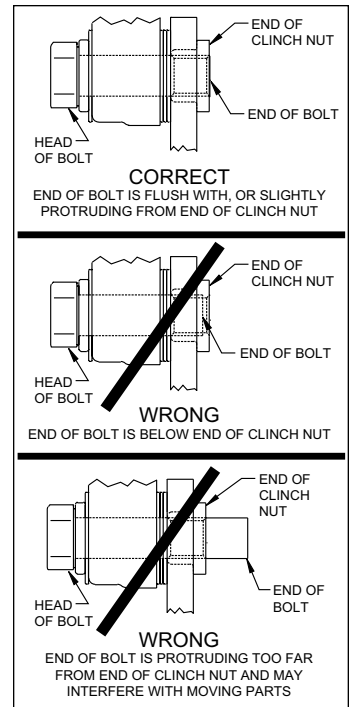

Figure 5. Clinch Nut Engagement Diagram
**CAUTION:** All mounting bolts must fully engage clinch nuts. Be sure to check that all bolts are either flush or protruding through flanged side of clinch nut after shimming, Figure 5.